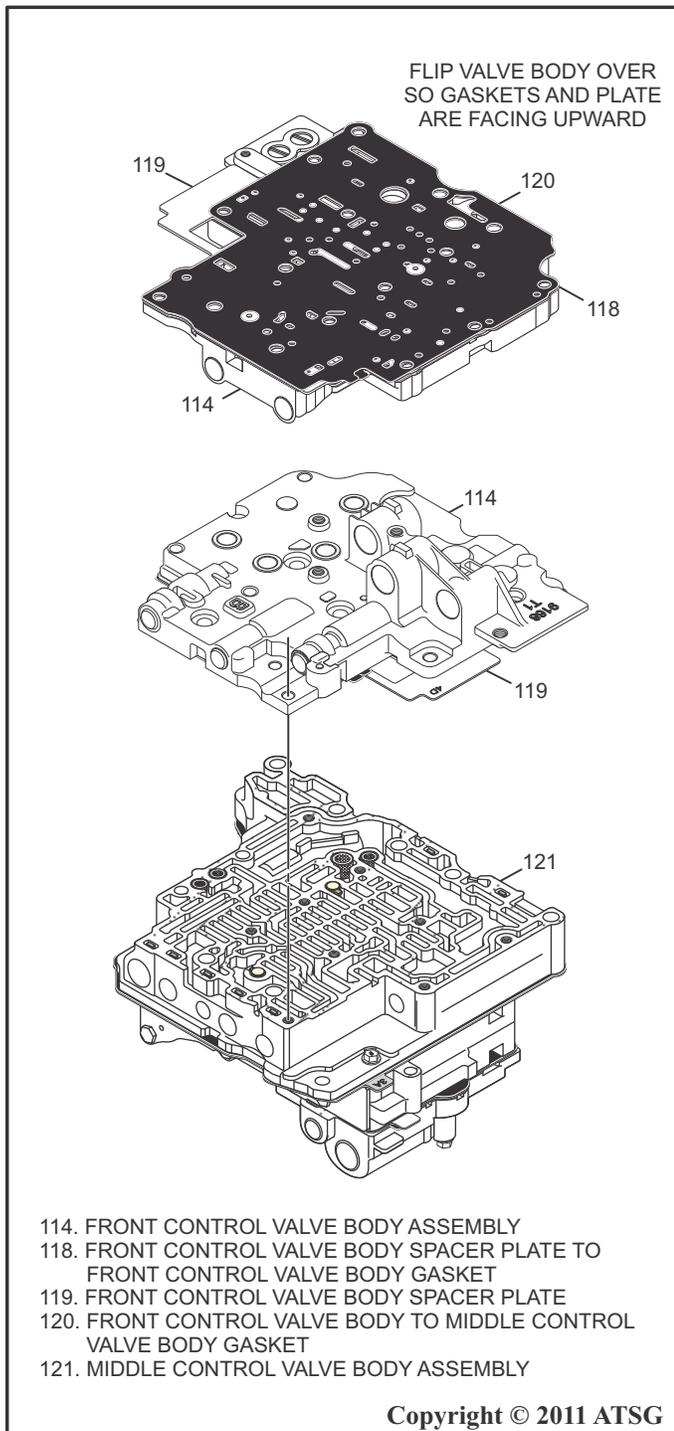

Figure 157
8. To avoid losing small parts, flip the front control valve body assembly so the gaskets and spacer plate are facing upward and lay on the work area for further disassembly as shown in Figure 157.